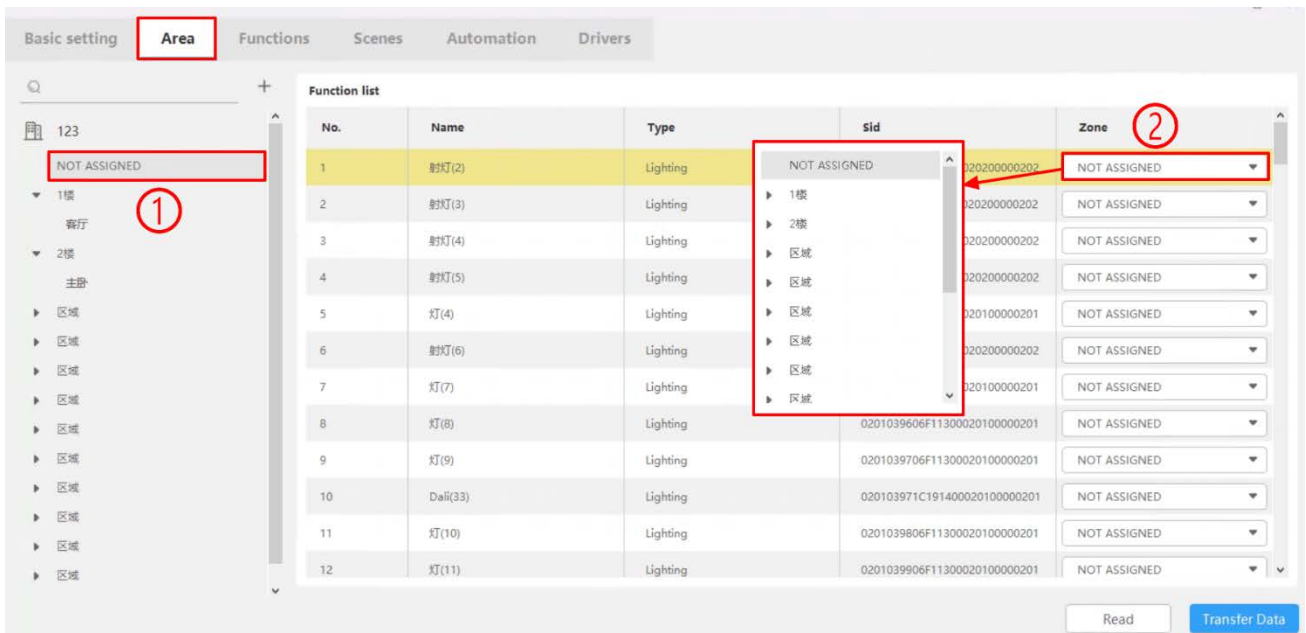

Figure 4-2 Assign Area
- ① As shown in Figure 4-2, click “NOT ASSIGNED” to see the list of unassigned zones, which is shown on the right side of the page.
- ② Pull down the “NOT ASSIGNED” tab, select the zone you need.
- ③ Click “Transfer Data” to complete the configuration and upload the data to gateway.